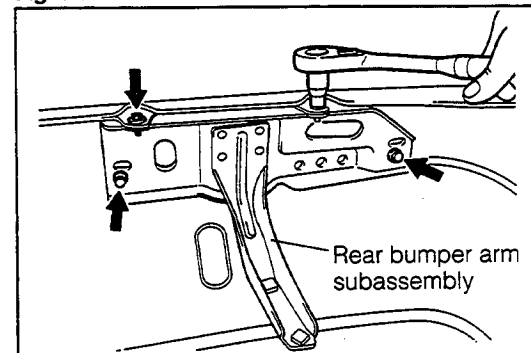

Fig. 9-39
- 1. Install the rear bumper arm subassembly to the rear bumper subassembly. (See Fig. 9-39.)